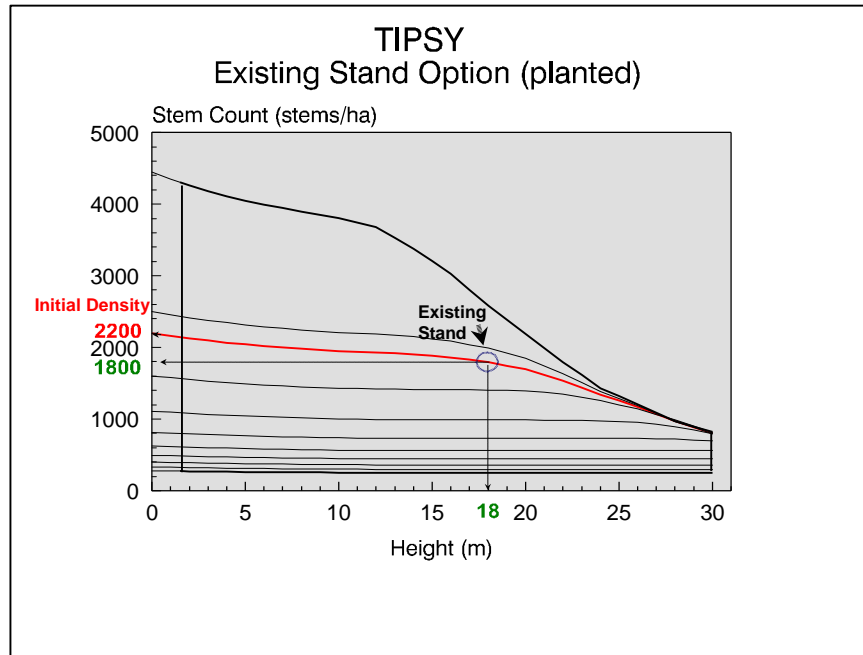

Figure 3. Existing Stand Option (Planted)
- Existing Stands Option (Figures 3 and 4)